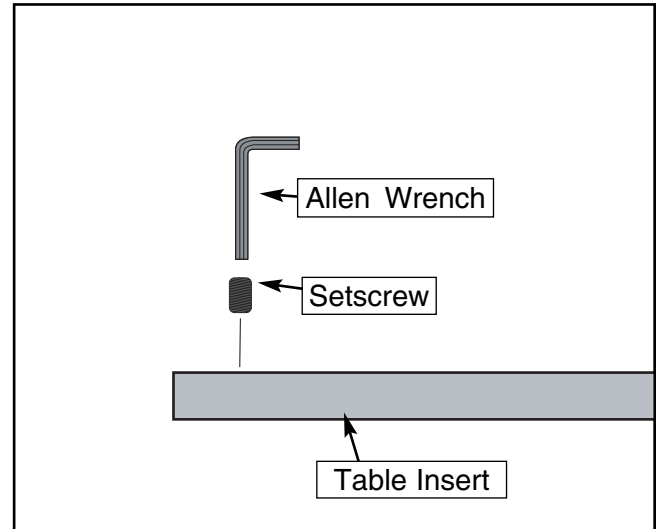

Figure 42. Adjusting table insert components.
5. Using an allen wrench, raise or lower each of the four setscrews until the insert is flush with the table top as shown in **Figure 42**.